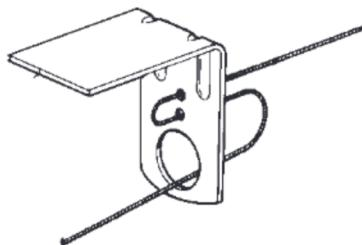
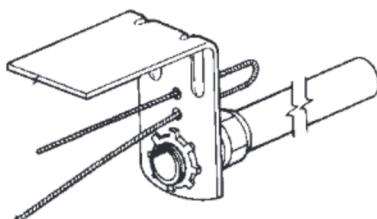

FIGURE 35
FIGURE 36
5. Feed the wire rope through the terminal detector bracket as shown in Figure 35 or as shown in Figure 36 if the terminal detector is mounted within a duct or header opening, and install the stop sleeve approximately 2 to 3 in. (5 to 8 cm) from the end of the wire rope. See Figure 37. Use the National Telephone Supply Company Nicopress Sleeve Tool (Stock No. 51-C-887) or equal to properly crimp the stop sleeve.